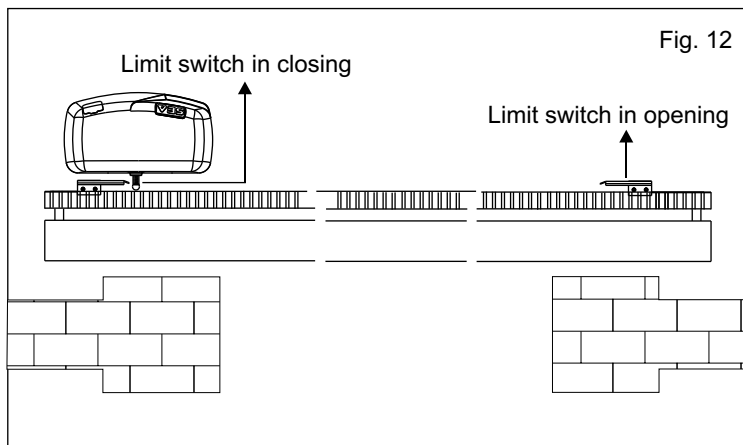

Fig. 12
6.1. To install and adjust the limit switches in opening procede as follows (Fig. 12):